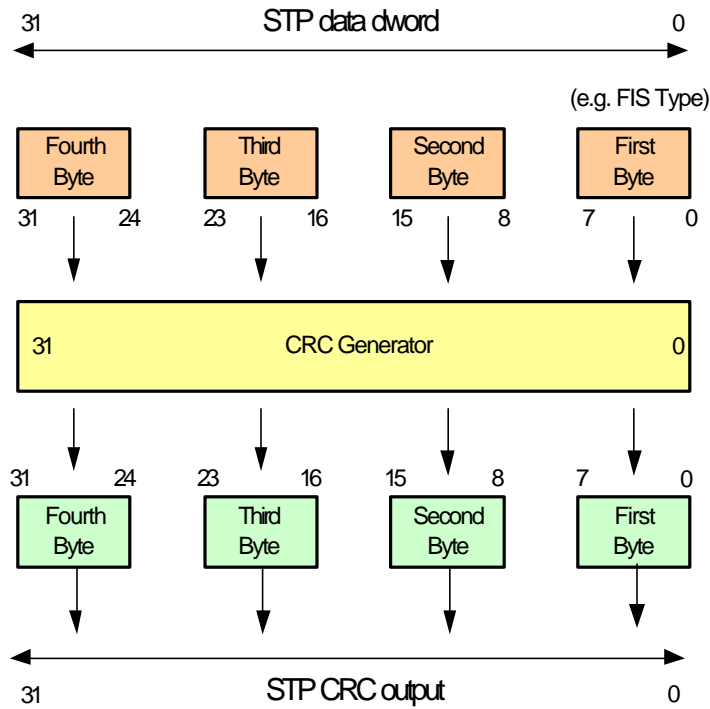

**Figure 56 – SSP/SMP Transmit path byte and bit ordering**
3) Figures 56 and 57 do not show the bit transposition and inversion logic associated with the SSP/SMP CRC generator/checker. Propose to replace with the following figures: